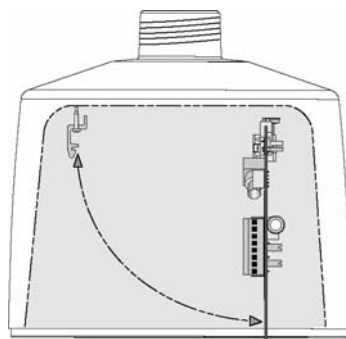

Figure 3
10. Swing the customer interface board back into place. If interface board was completely removed, be sure to reinstall it correctly, with the white connector near the wall of the enclosure. Refer to Figure 3. After wiring is complete, dress cables up over board